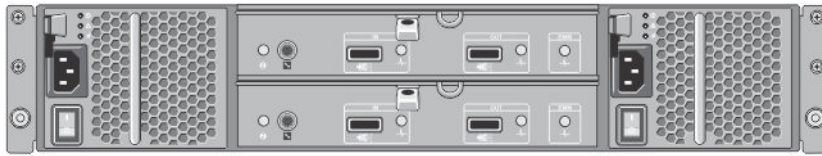

Figure 3. Dell PowerVault MD1200 Rear Chassis
- **Local console connection:** this is a local access connection made between a local workstation and the DR Series system (with one connection made to a USB keyboard port on the DR Series front/rear chassis, and a second connection made to the VGA monitor port on the DR Series system rear chassis. (See Figure 3 for locations in the DR Series System Rear Chassis Port Locations in the Local Console Connection.)
- **iDRAC connection:** this is a remote access connection made between an integrated Dell Remote Access Controller (iDRAC) and the dedicated management port on the DR Series system rear chassis. (See Figure 3 for locations in the DR Series System Rear Chassis Port Locations in the Local Console Connection.)
1. **(DR4000 system)** Locate the VGA monitor port and the USB ports on the back of your system. See Figure 3 for the VGA and USB port locations and complete steps 1 to 4. For the DR4100/DR6000 system, skip to step 5.
2. Connect the video monitor to the VGA port on the back of your system (see item 1 in the DR4000 System Rear Chassis Port Locations table).
3. Connect the USB keyboard to one of the two USB ports on the back of your system (see item 3 in DR4000 System Rear Chassis Port Locations table).